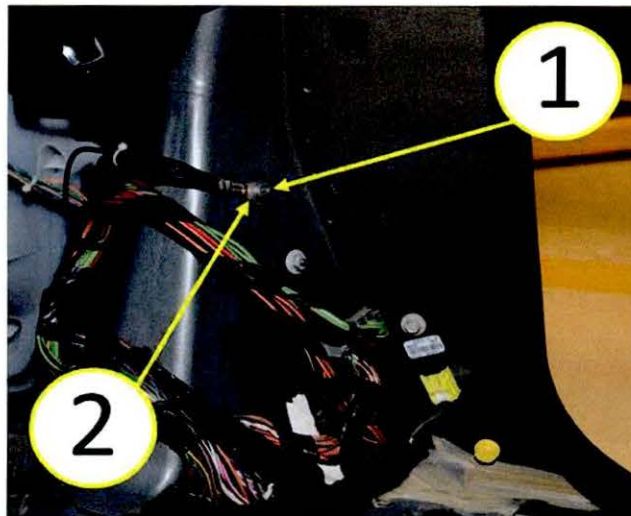

Fig. 6 Ground Terminal Removal
7. Remove the power top control module grounding nut (1) and ground wire terminal (2) from the body grounding stud (Fig. 6).